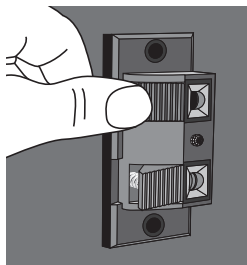

figure 6
2. Gently press on the toggle to open the connector (**figure 6**).